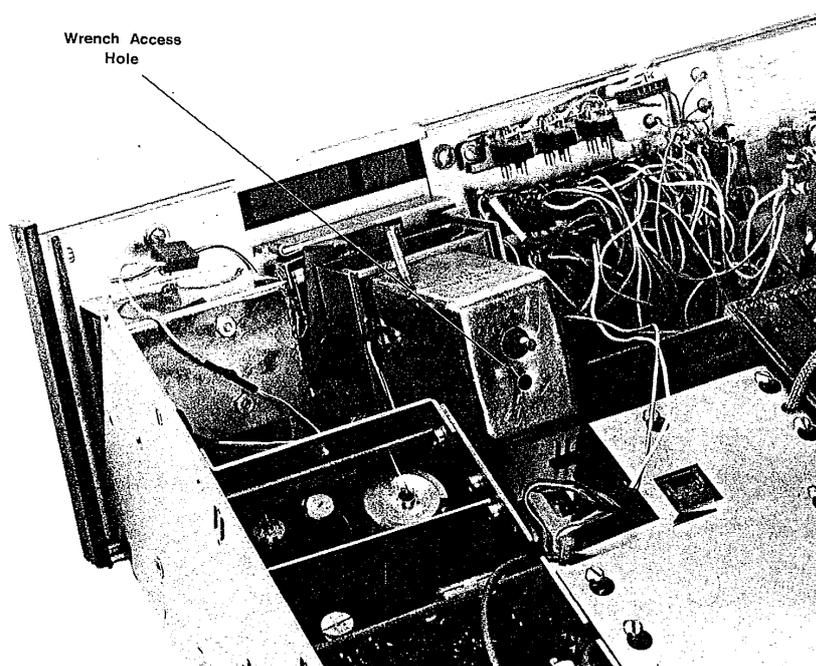

Fig. 2-36 PTO Torque Adjustment
8. Refer to figure 2-36 and identify the wrench access hole in the rear of the PTO cover. Insert a long (at least 3") 3/32" ALLEN wrench straight through this hole, seating the wrench in the ALLEN set screw which serves as the shaft bearing. The proper wrench is available from the factory. Be sure to insert the wrench straight through the access hole, to avoid damaging any components inside the PTO.